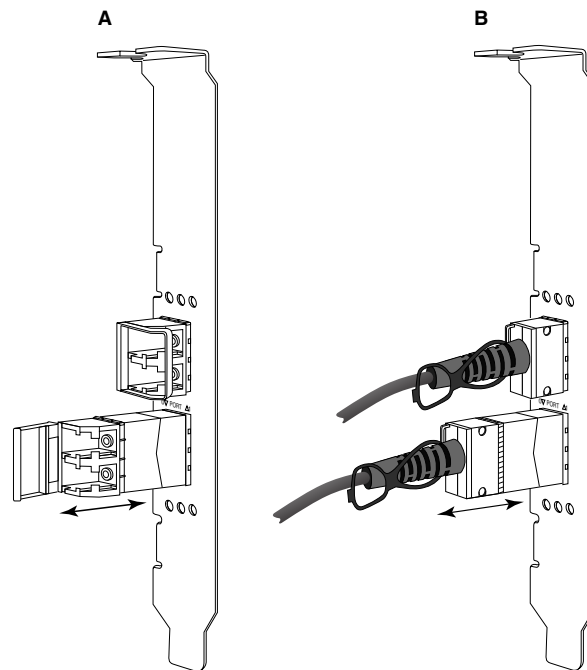

FIGURE 10 Removing or installing fiber optic and copper SFPs
- For SFPs with optical transceivers, use your thumb and forefinger to unlatch the bail from the side of the cable connector. Using the bail or pull tab as a handle, pull the SFP straight out of the receiver. Refer to the left illustration in Figure 10.
- For copper SFPs with attached cables, use your thumb and forefinger to pull the tab on the cable to release the SFP latch, then pull the SFP straight out of the receiver. Refer to the right illustration in Figure 10.